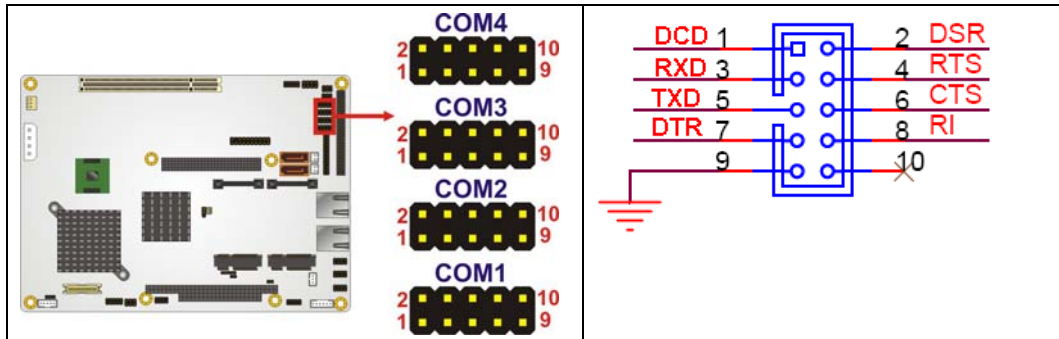

Figure 4-20: COM Connector Pinout Locations
- CN Location:** See Figure 4-20